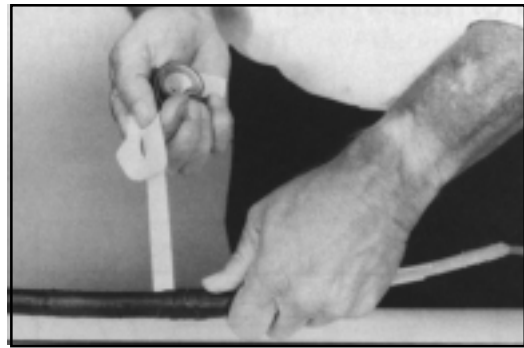

FIGURE 14 – APPLYING LOCK-TAPE SEALANT
7.07 Apply required number of half-lapped layers of 3/4" LOCK-TAPE Sealant around the cable in the area coated with C-Cement. Stretch tape while applying. (Figure 14)